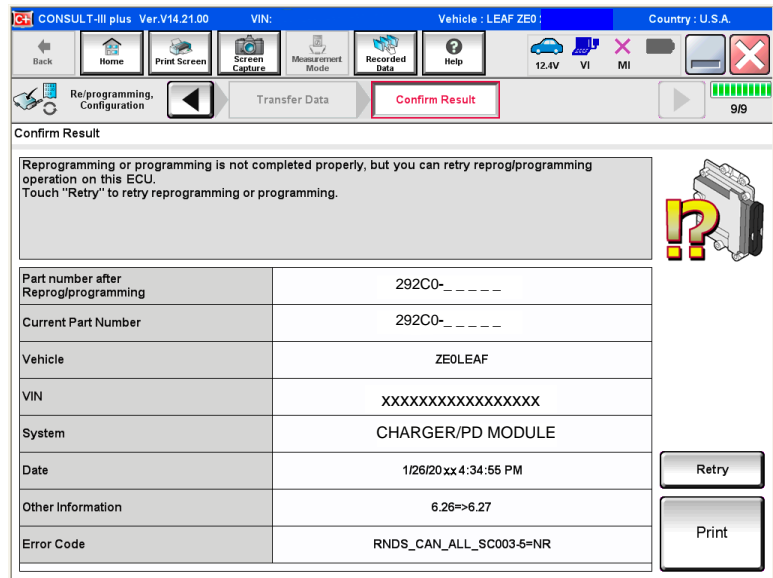

Figure 17
**NOTE:** If reprogramming does not complete and the **!?** displays as shown in Figure 17: